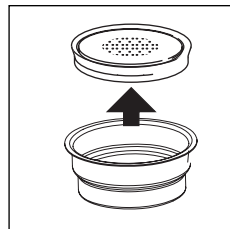

fig. 29
- Remove the crema enhancer from the container by pushing it from the cap end (fig. 29).